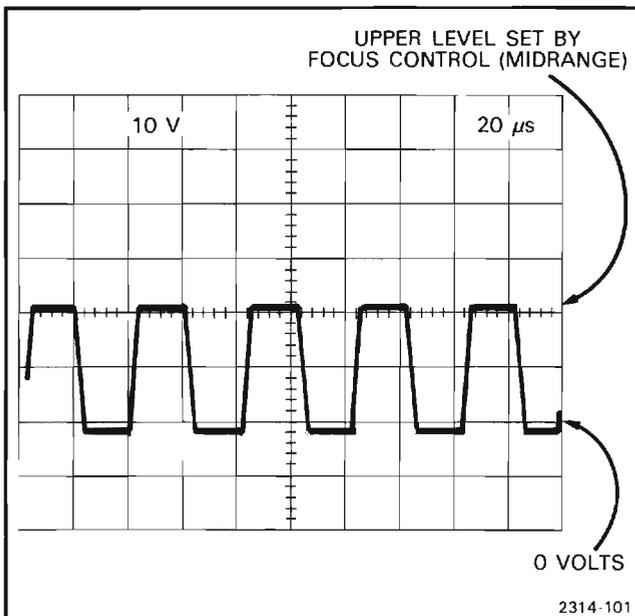

Figure 4-11. Typical waveform at junction of R1814 and CR1816 on the High Voltage circuit board.
1. Check that the waveform at the junction of R1814 and CR1816 is similar to that shown in Figure 4-11.
- If the waveform is not as shown in Figure 4-11 and the dc level is above ground with the FOCUS control at midrange, check diode CR1818 or CR1819 for a short.
- If the waveform does not appear as shown in Figure 4-11, the Focus Grid DC Restorer may not be receiving drive signal from the high voltage transformer. Check resistors R1788, R1789, R1813, and R1814.